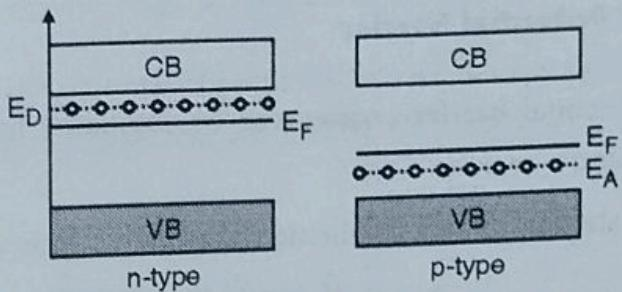

Fig. 2.3.1 : Position of Fermi-level in n-type and p-type semiconductor
- When p-n junction is being formed, both materials will find their Fermi levels non-aligned as shown in Fig. 2.3.1 and they must be aligned.